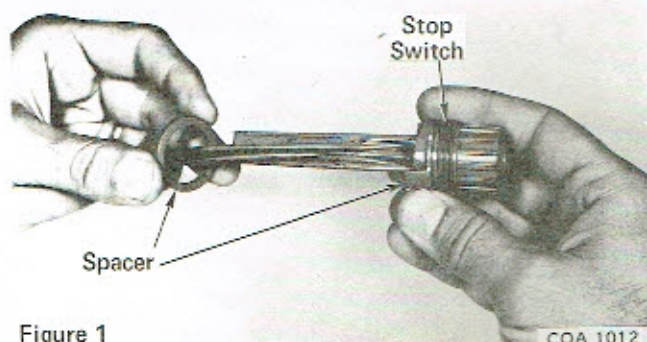

Figure 1
1. Install spacer over stop switch wires and against stop switch. See Figure 1.